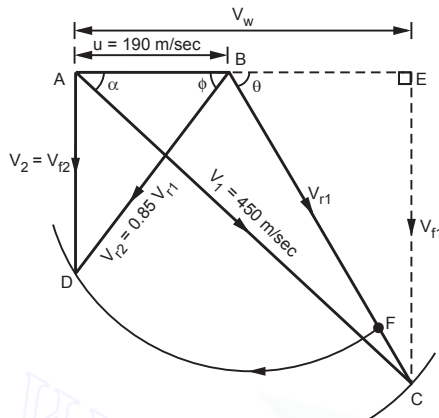

Fig. 3.20
- Consider a suitable scale as 1 cm = 50 m/sec and draw velocity triangles as shown in Fig. 3.20.